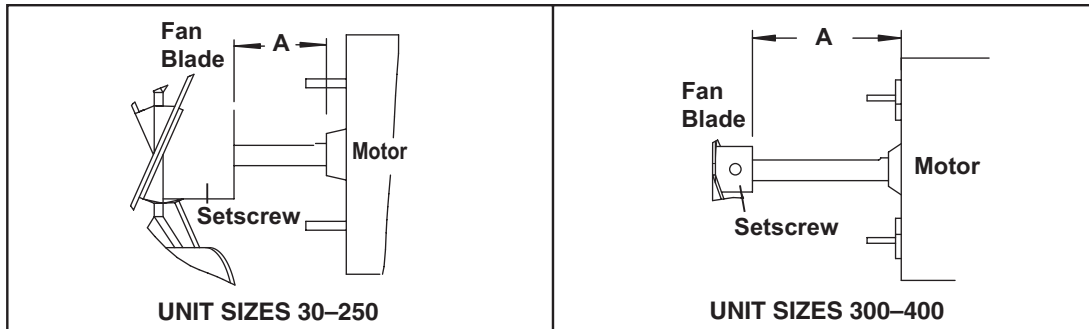

Figure 23. Fan Spacing
6. Ensure that fan blade is in proper position on shaft (see Figure 23) and that blades are properly spaced (refer to Table 22).
*See Figure 23 .
*See Figure 23.